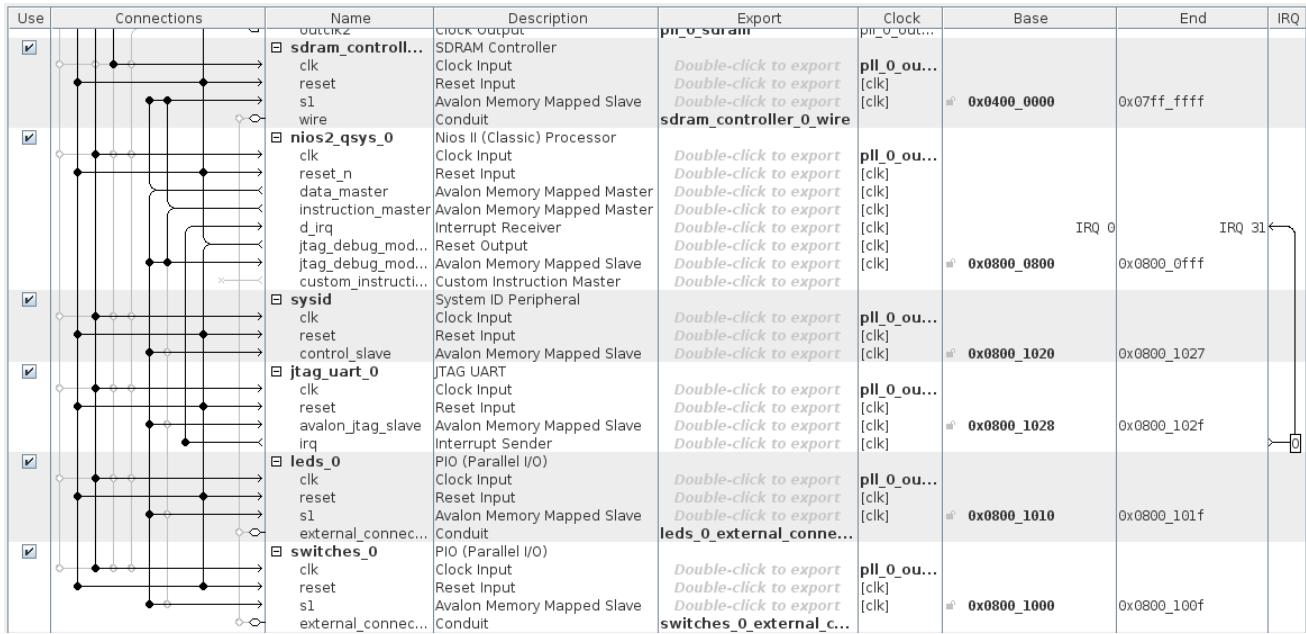

Figure 9-3. Adding LEDs and Switches to the System
14. Connect the system as shown in Figure 9-3 below (we don’t show the full system to make figures hold on one page):